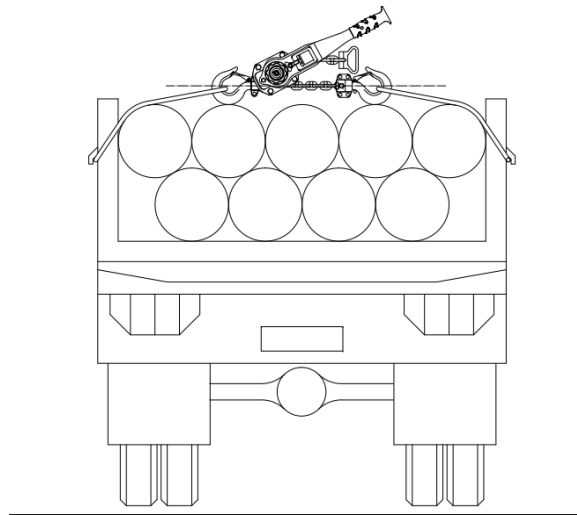

Figure 6
- When connecting to a wire rope sling, the lever hoist must be applied along a straight line parallel to the surface on which it is resting. See Figure 6.